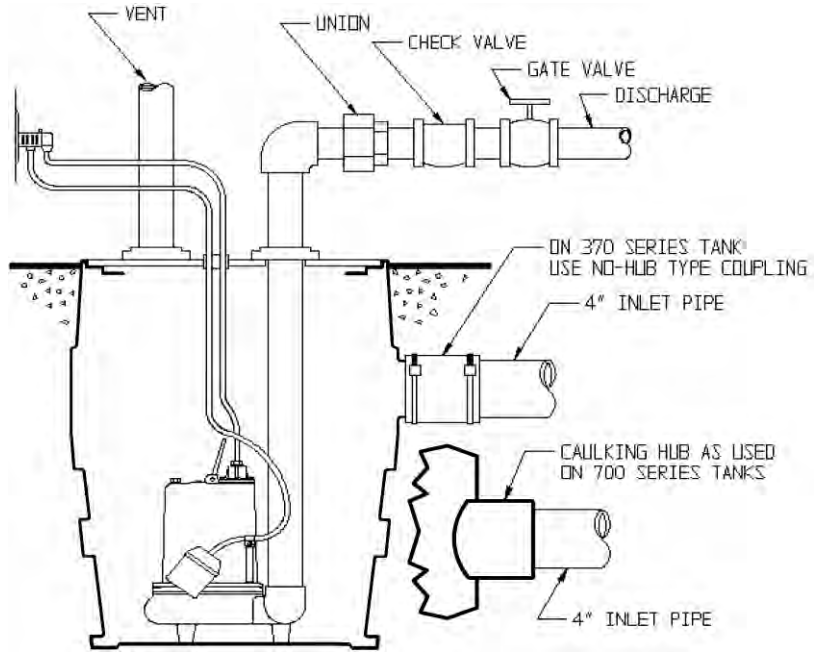

Fig. 2 – Typical Installation Simplex System
- A. **Simplex (One Pump) Systems (see Fig. 2):** Set the pump in place making sure the float has adequate clearance to the side wall of the basin. If an optional control device or float is used, follow the directions for mounting that accompany the optional control. Minimum pump turn off level should not be set below 6". Connect the discharge pipe to the pump's threaded discharge. **IMPORTANT: Do not reduce the discharge pipe size below that which is provided on the pump.** Sewage pumps should not be smaller than 2". In some applications, it may be necessary to increase the pipe size to reduce friction losses. Contact Liberty Pumps or other qualified person if you have questions regarding proper pipe sizes and flow rates. Mount the basin cover provided, making sure it is properly sealed. (This is a recommended